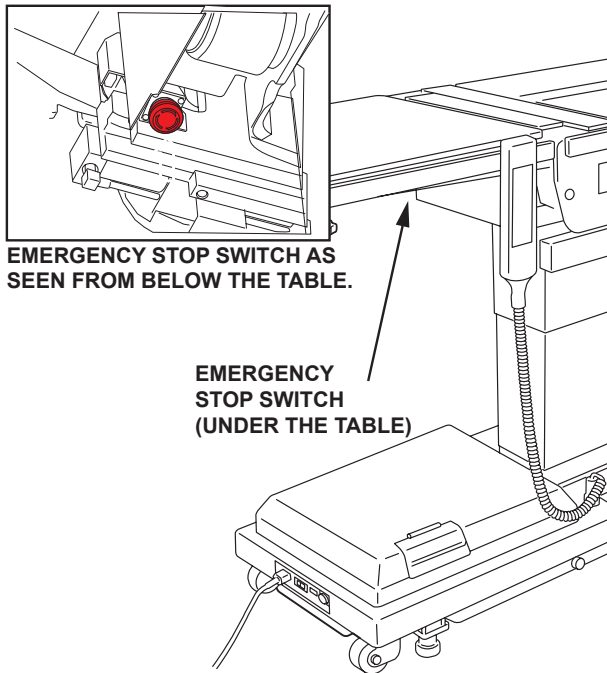

Figure 23. Emergency Stop Switch
An emergency stop switch is located under the table top (Figure 23).
3. **To cut off power to the table in the event of an emergency:** press the red emergency stop switch located below the table on the head end near the column (See Figure 23). All positioning functions will stop and an alarm will sound.